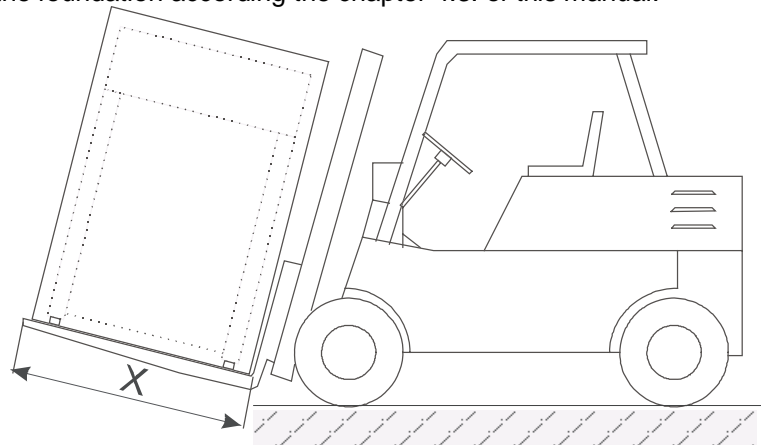

Fig. 4.1 A Minimum length „X“ of lift truck forks for individual machine types including package 505527
**FORKS OF HIGH LIFTING TRUCK MUST HAVE SUFFICIENT LENGTH (SEE FIG. 4.1.A).**